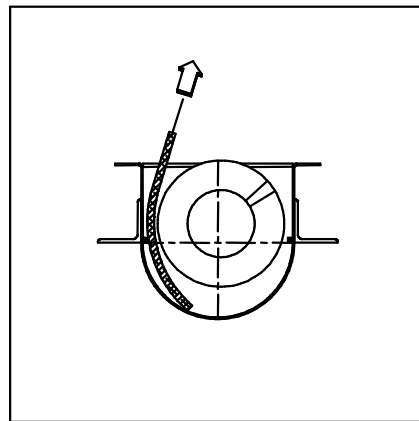

*Figure 5.2b - Lifting the Spiral*
3. Remove the spiral from the trough or lift it to increase accessibility (see Fig 5.2b).